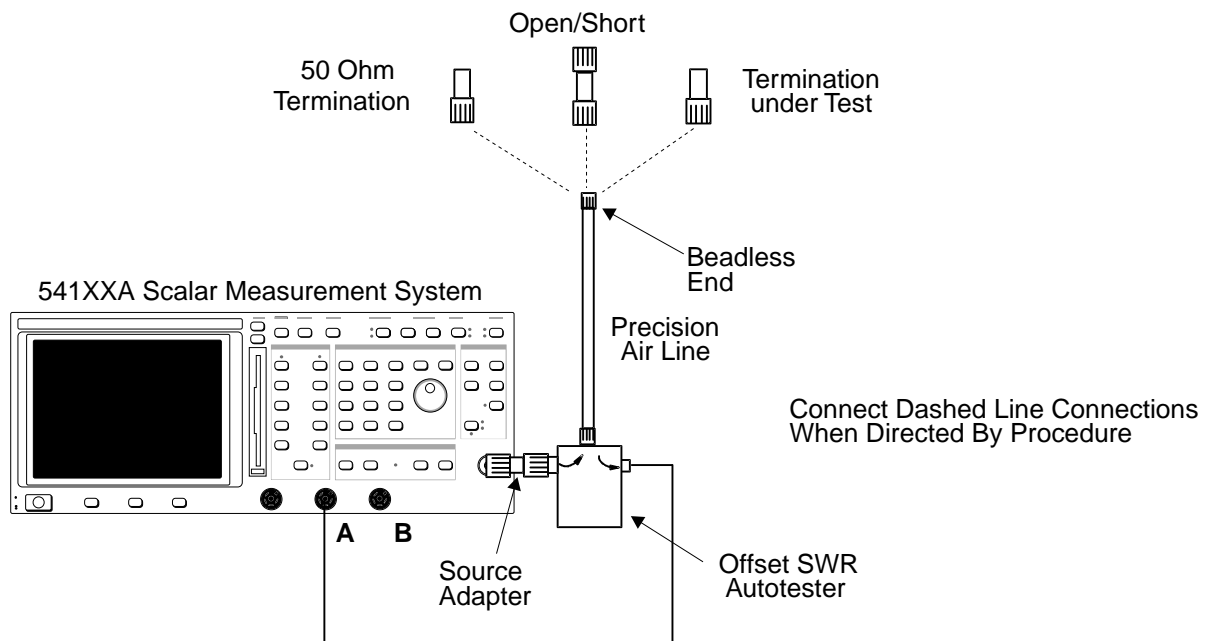

Figure 4. 541XXA Precision Return Loss Test Setup
1. Connect the test equipment as shown in Figure 4.